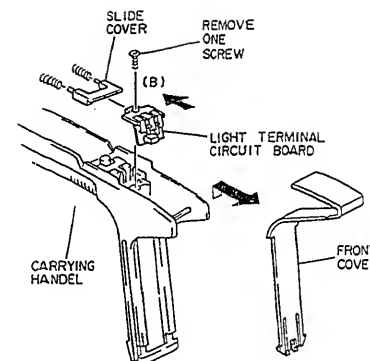

Fig. 2-19
1. Remove one (1) screw holding light terminal circuit board. (See Fig. 2-19)
2. Remove front cover in the direction of arrow (A).
3. Remove slide cover in the direction of arrow (B).